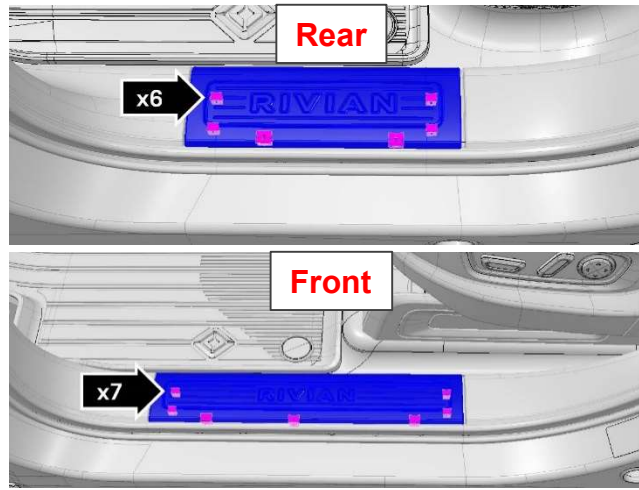

Figure 2
2. Remove the front and rear sill plates by gently prying the highlighted clips loose. (Figure 2)